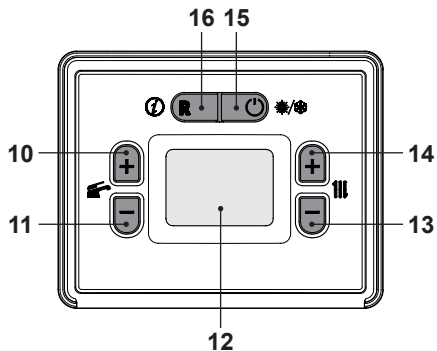

Fig. 7.10
- Press and hold the 15 key until both  and  symbols appear on the display Fig. 7.10.
- Switch off the boiler by pressing the 15 (Fig. 7.10) key for 5 seconds until the **---** symbol appears on the LCD display (Fig. 7.9).
- Press the 15 key for 5 seconds until both  and  symbols appear on the display Fig. 7.10.
Press the reset key on the boiler control panel 16 (Fig. 7.10) to reset its functioning.